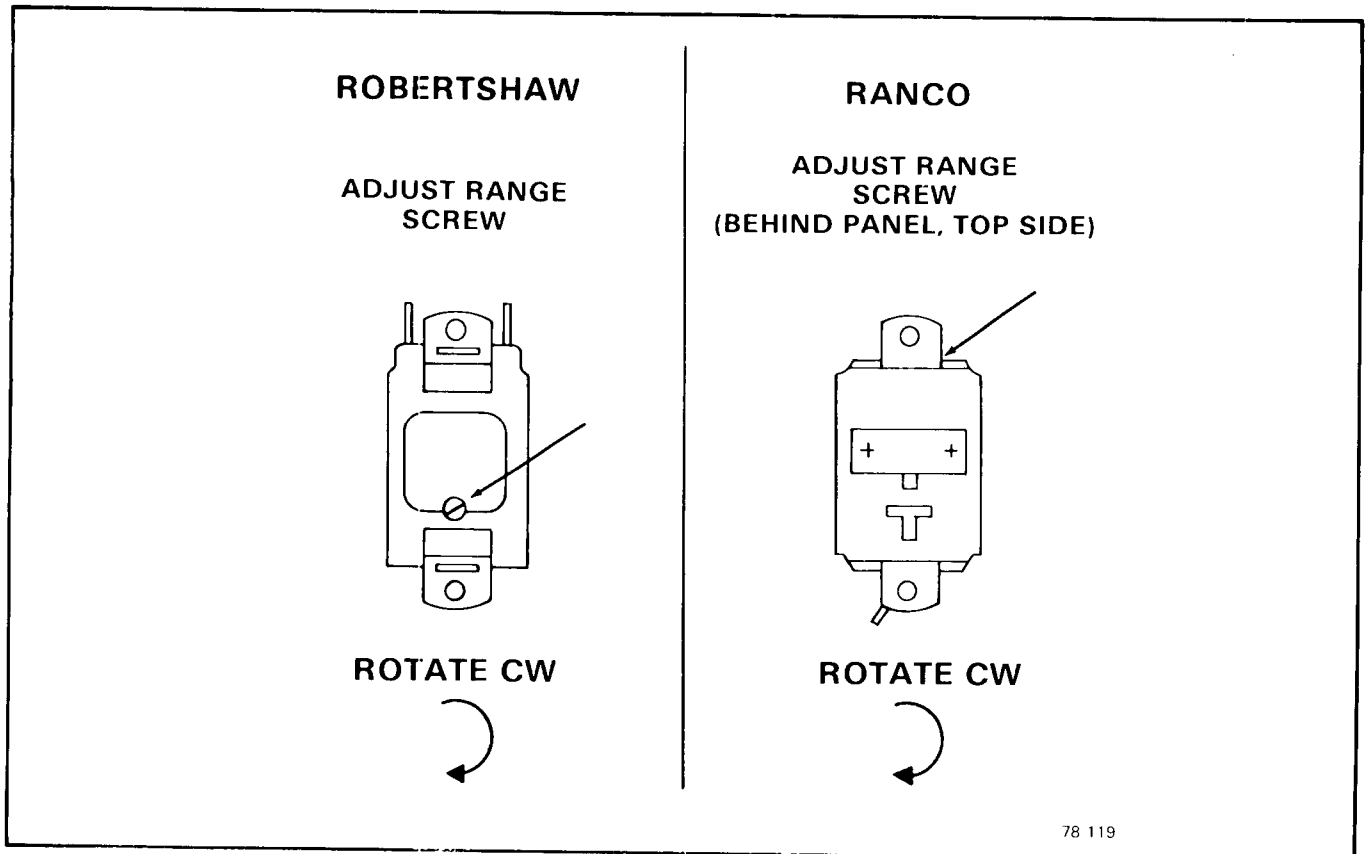

Figure 4-1. Adjustment of the Temperature Control
See Figure 4-1 for location and direction of rotation, clockwise (CW) or counterclockwise (CCW), of the adjusting screws on the Temperature Control, in the particular Control Box the adjustment is to be performed.